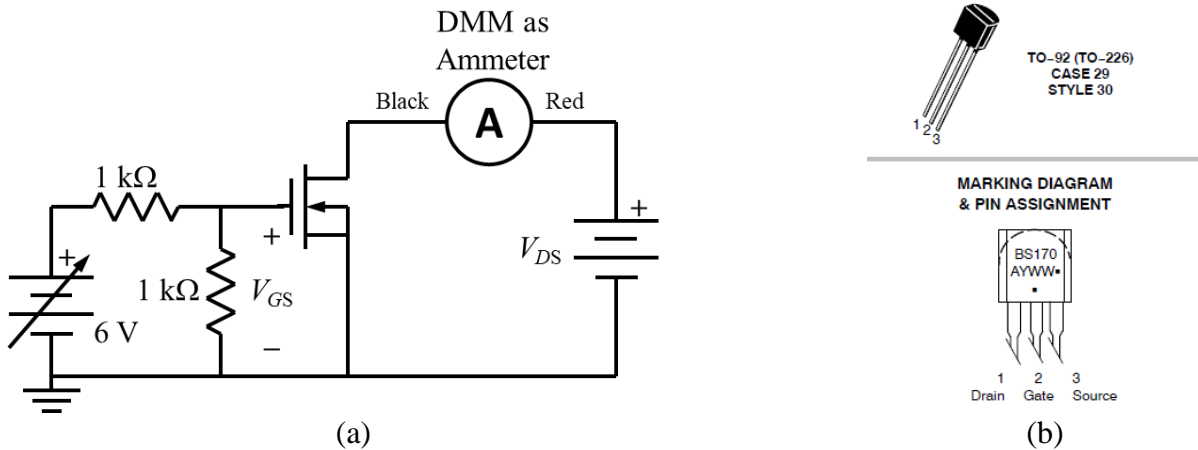

Fig. 1. NMOS transistor (a) test circuit and (b) package drawing.
2. Measure the BS170 I_D vs. V_{GS} transconductance characteristics for constant V_{DS} using the circuit in Fig. 1 as follows.
- a. Construct the circuit in Fig. 1 using the +6V supply for V_{GS} and the +20 V supply for V_{DS} . Make sure the supplies are set to 0 V before connecting them to the circuit.
- Measure BS170 common-source I_D vs. V_{DS} transfer curves for two constant V_{GS} values using the circuit in Fig. 1 as follows.